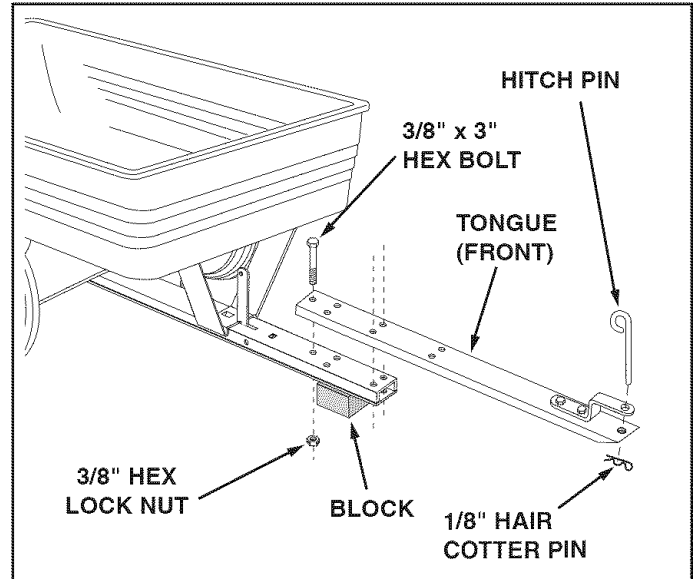

FIGURE 7
- Assemble the front tongue on top of the rear tongue using three 3/8" x 3" hex bolts and 3/8" nylock nuts. See figure 7.